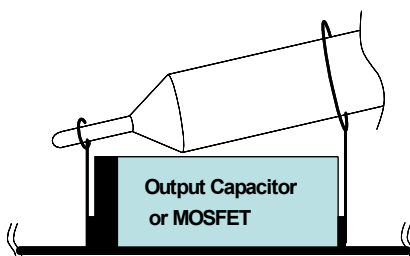

Figure 2. Proper Probe Setup to Measure Output Ripple and Phase Node Ringing
- (2) Turn on the power supply.
- (3) Adjust the input voltage  $V_{IN}$  within the specified range and observe the output voltage. The output voltage variation should be within 3%.
- (4) Adjust the load current within the specified range and observe the output voltage. The output voltage variation should be within 3%.
- (5) Use an oscilloscope to observe output voltage ripple and phase node ringing. For accurate measurement, refer to Figure 2 for proper test setup.